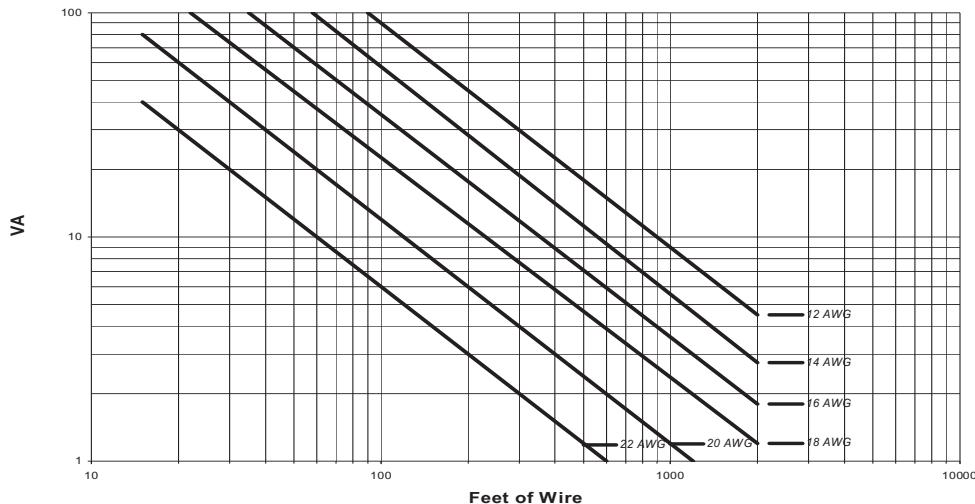

Fig. 10 Determining the appropriate wire size
- Hold the controller along the wall and mark drilling locations through the screw red clip slots, as shown in figure 10.